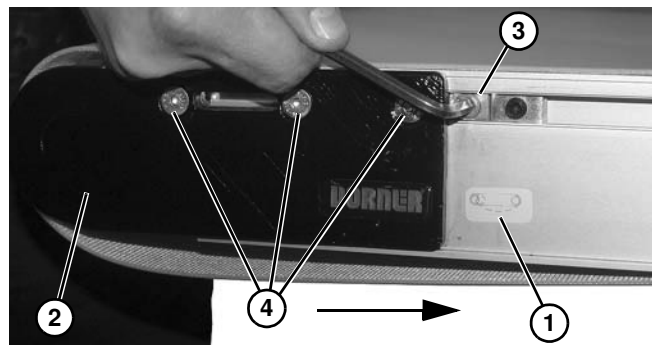

Figure 6
- a. On idler end of conveyor, identified with a  label (**Figure 6, item 1**), push in head plate assembly (**Figure 6, item 2**):
- On both sides of conveyor, loosen and move cam tracking assemblies (**Figure 6, item 3**) (if equipped) away from head plates.
- Loosen fastening screws (**Figure 6, item 4**) and push head plate assembly inward.